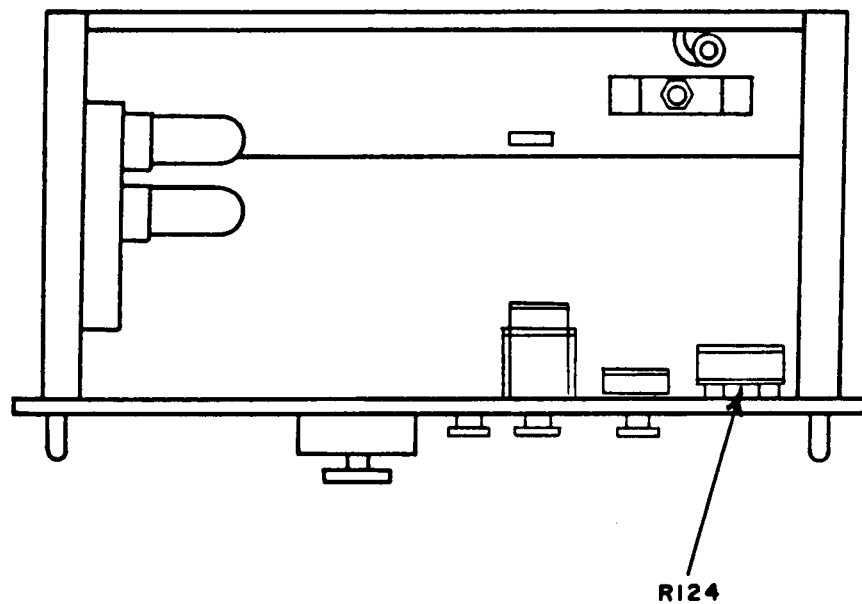

Figure 1. Radar test set - bottom view.
**d.** Position controls as listed in (1) through (7) below:
(7) Adjust **ZERO/FINE** control (**METER BALANCE/FINE** control on some models) for **SET ZERO** indication on **SET POWER** meter (**METER BALANCE** control on some models).
It may be necessary to adjust R124 (fig. 1) to obtain **SET ZERO** indication in (7) above for the TS- 147 ( ).